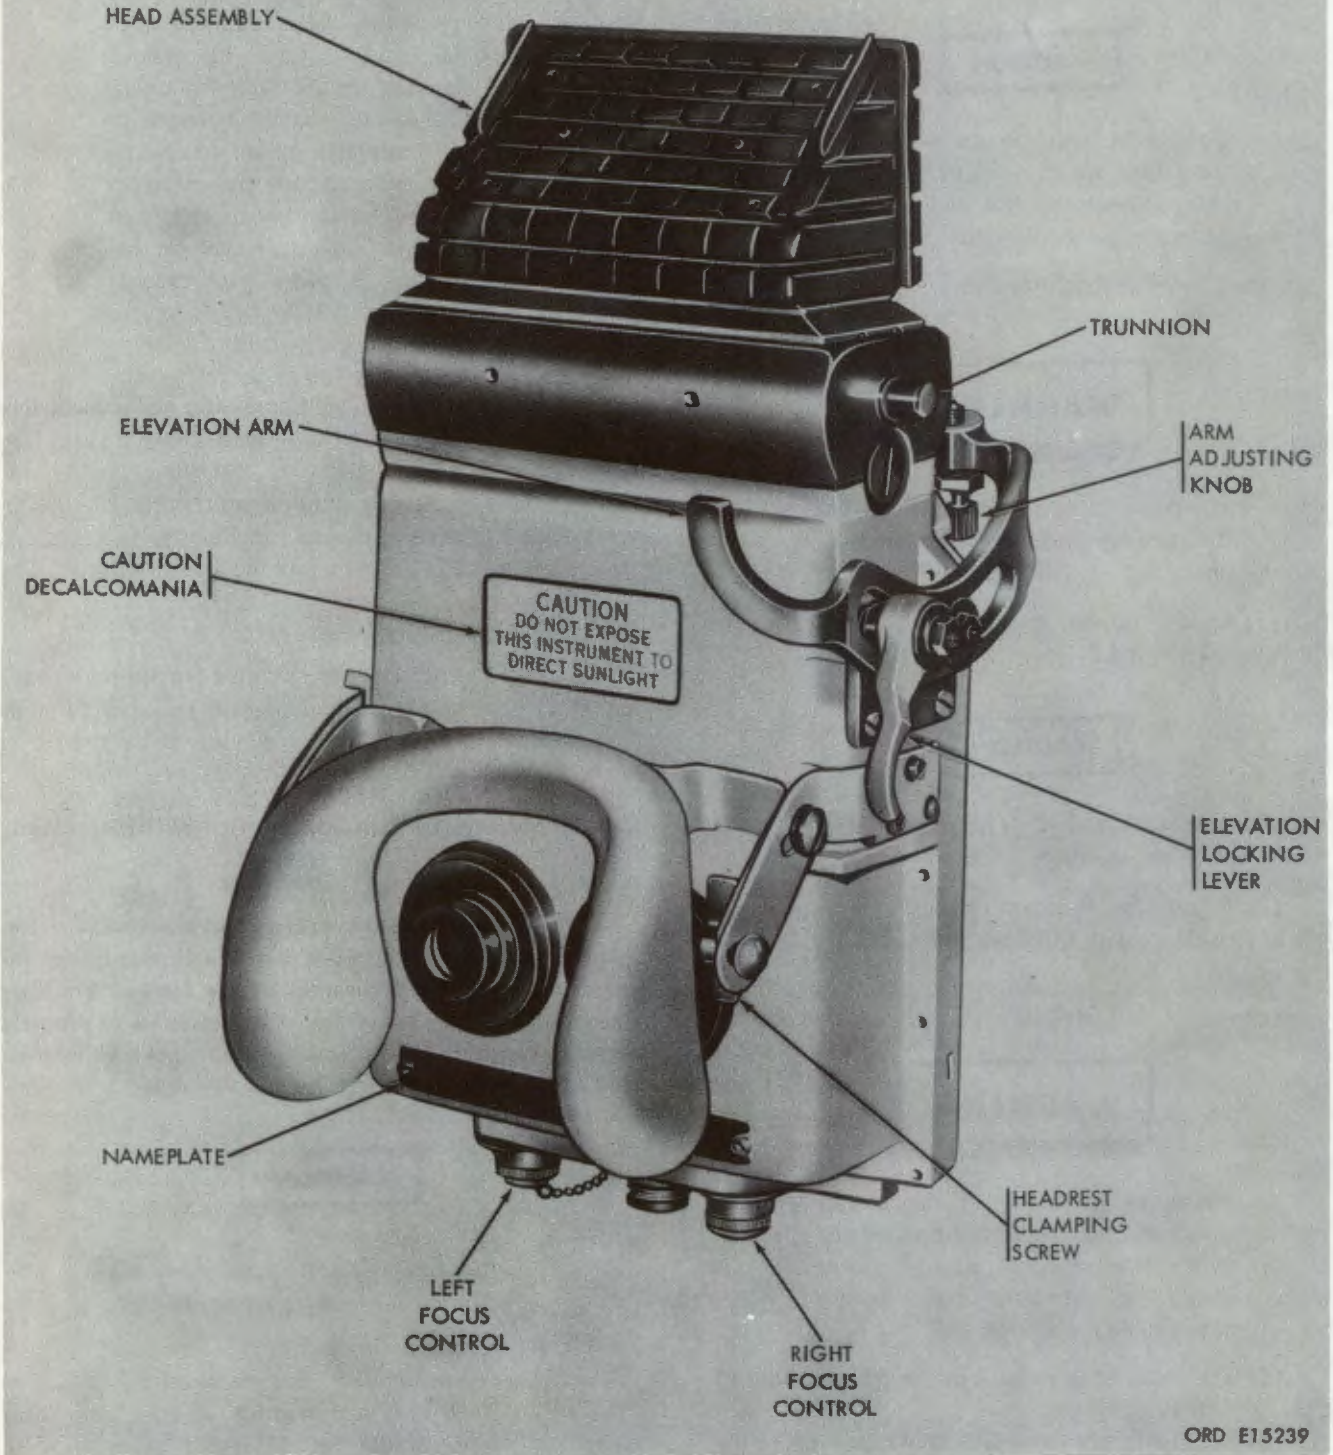

Figure 2-73. M19 periscope.
*a. Description and Use.* The M19 periscope (fig. 2-73) is used for blackout driving with infrared headlights. When not in use the M19 periscope is stowed on the hull wall to the left of the driver.